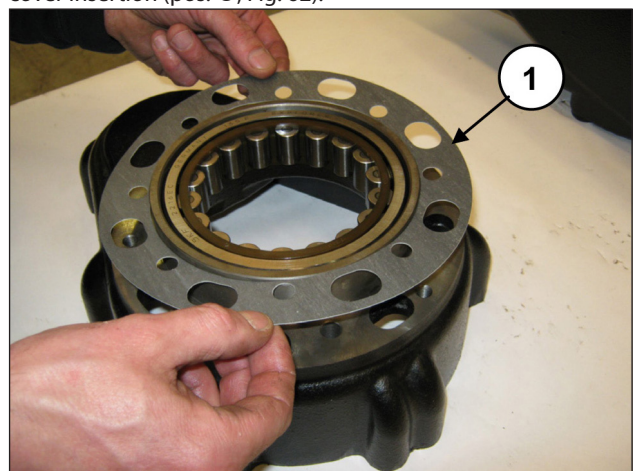
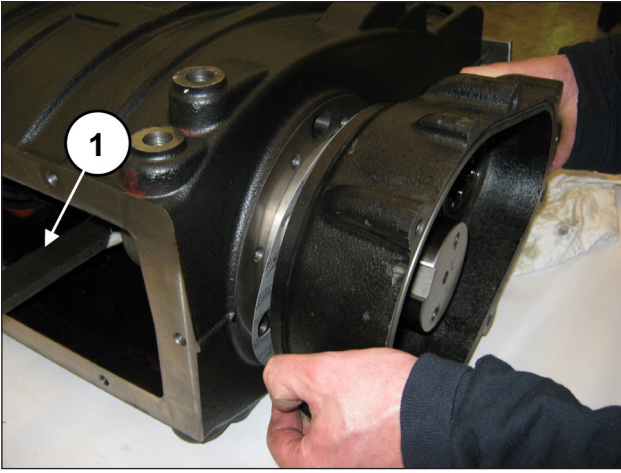

Fig. 61
Fig. 62
From the opposite side, insert the side seal on the reduction gear box (pos. ①, Fig. 61) and lift the bend shaft to favour cover insertion (pos. ①, Fig. 62).